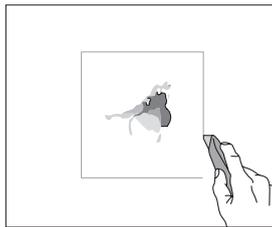
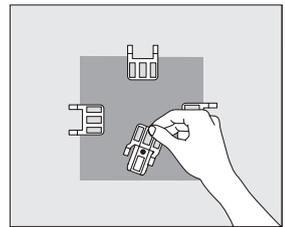
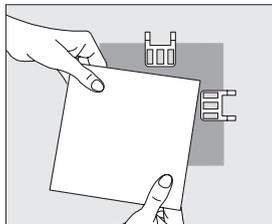
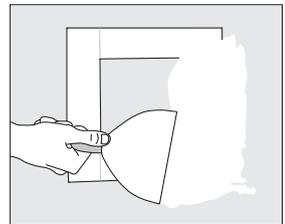

Fig. 2
Fig. 3
Fig. 4
Fig. 5
**Remedy 1:** Cut a square-shaped section around damaged area with a utility knife or keyhole saw, (Fig. 2) then cut a plug of the same dimensions from a sound gypsum panel. Slip SHEETROCK Brand Drywall Repair Clips onto all four edges of the prepared hole and screw attach (Fig. 3). Mount replacement section and screw attach to clips (Fig. 4). Remove repair clip tabs (Fig. 5) and finish all four sides with joint tape and compound. Apply and feather out second and third coats, sand and prime.